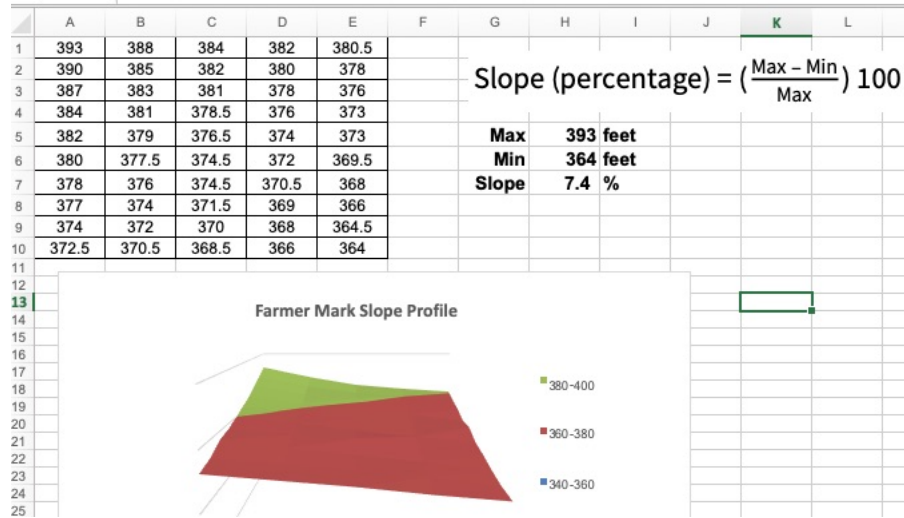

Figure 3: Screenshot of completed Excel spreadsheet, showing a 7.4% slope
2. Students will determine the spacing on the grid (for example, each contour line represents two feet. Using the dot at the center, the students should determine an elevation value for each of the grids. This data should be entered into Excel or Google Sheets following the same grid markers (for example, A1, B3, etc.). Figure 3 shows sample data. Student data will be approximate, but should be close: